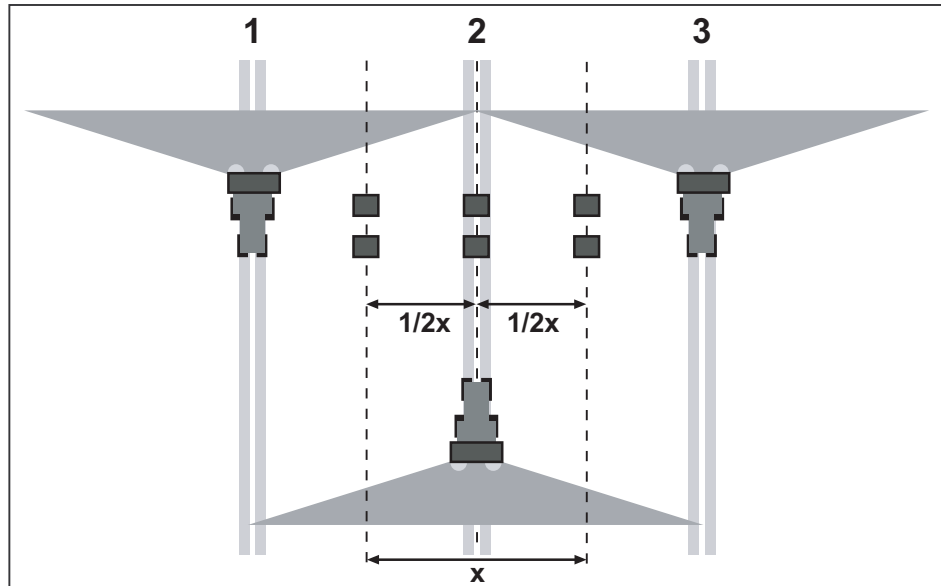

Figure 7.19: Layout for three passes
- Place two catch trays at a distance of **1 m** behind each other in the overlap zones and in the centre track (corresponding to figure 7.19).